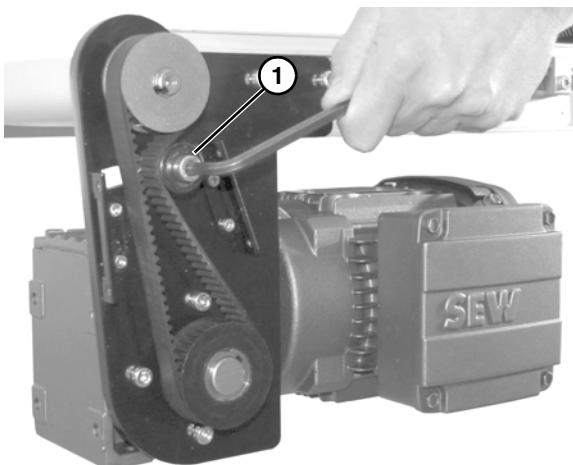

Figure 21
2. Loosen tensioner (**Figure 21, item 1**).